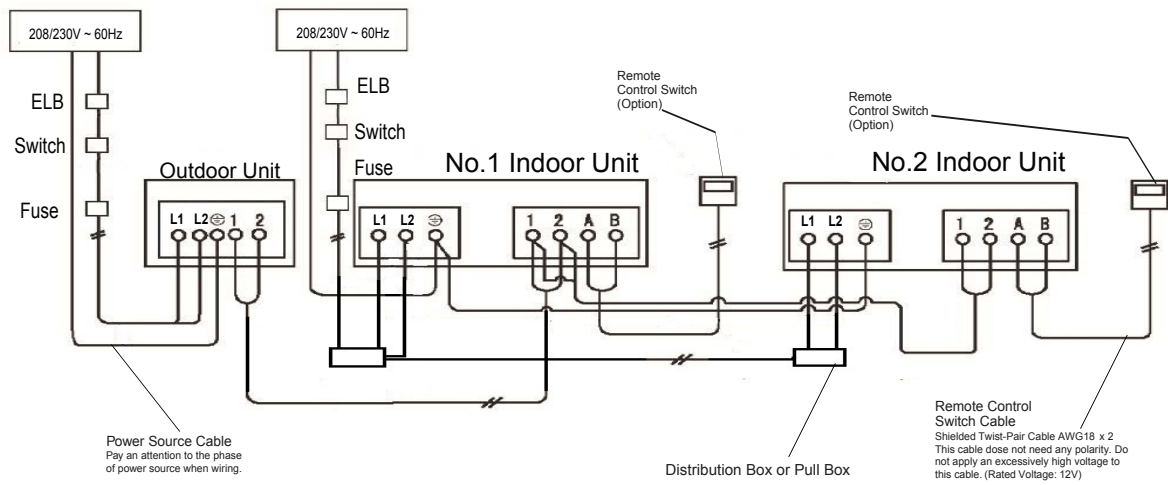

Fig. 6.2 Wiring Connection for Indoor & Outdoor
- (1) Connect the power supply wires to the terminal board in the electrical control box of both outdoor unit and indoor unit. And connect the earth wire to the electrical control box of outdoor unit. In addition, connect the earth wire to earth screw in the electrical control box of indoor unit. Refer to Fig. 6.2.